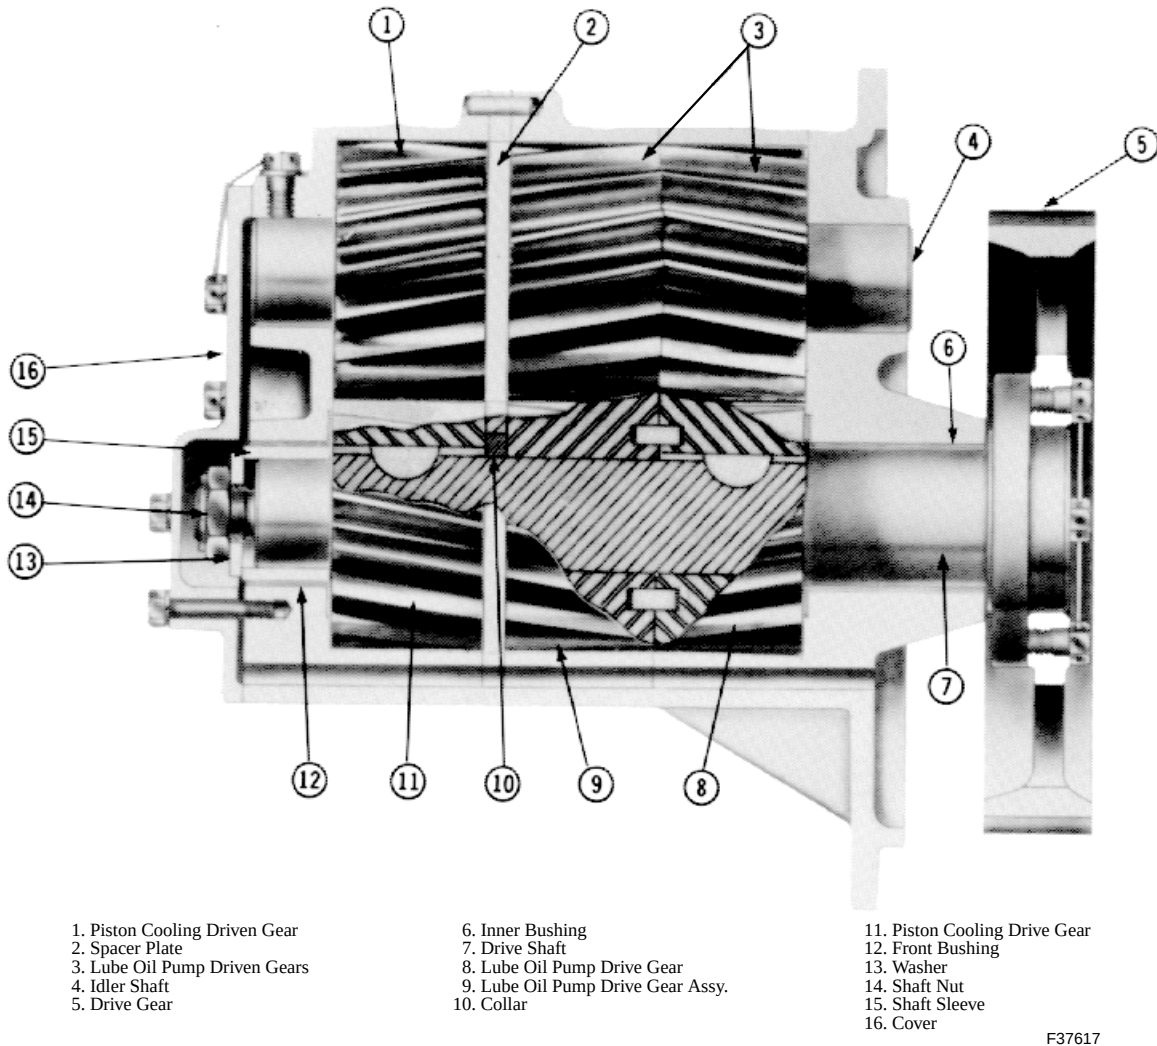

Figure 9-14. Typical Main Lube Oil And Piston Cooling Oil Pump, Cross-Section (16-Cylinder Engine Shown.)
4. Using a rawhide mallet, tap the front body at the inlet and outlet openings to remove the front body, cover, idler shaft, and outer driven gear as an assembly, Figure 9-14., on page 9-21.
1. Place the mounting flange of the cleaned and inspected rear body, Figure 9-14., on page 9-21 , in the bench vise with the drive shaft bore facing up.